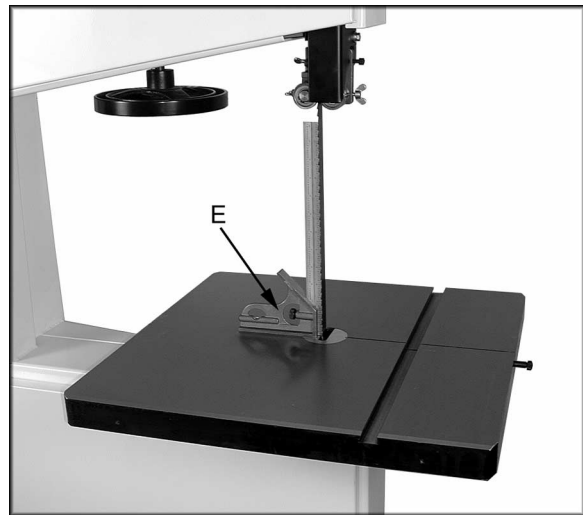

Figure 8
3. Use a square (E, Fig. 8) placed on the table and against the blade to see if the table is 90 degrees to the blade.